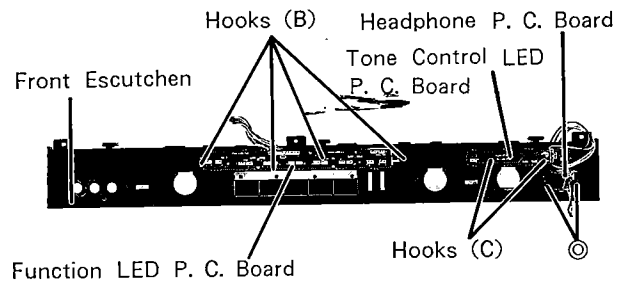

Figure 7
(1) After removal of Front Escutcheon, remove four hooks (B) as shown in Figure 7.
(1) After removal of Front Escutcheon, remove two hooks (C) as shown in Figure 7.
(1) After removal of Front Escutcheon, remove two screws marked "◎" as shown in Figure 7.